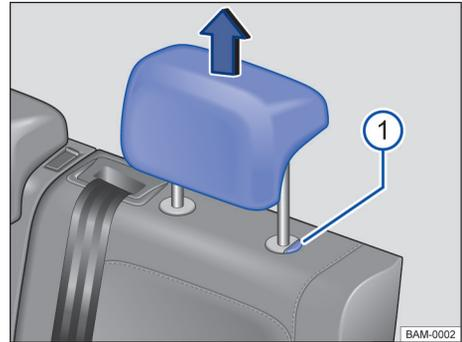

Fig. 68 Rear seat head restraint: removal
- Press and hold → Fig. 68 ① to remove the head rest.
- Press and hold → Fig. 68 ① to push the head rest downwards.